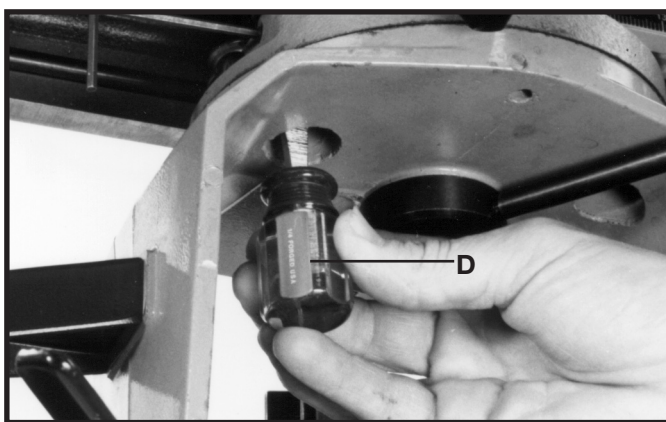

Fig. 40
5. Using a small screwdriver (D) Fig. 40, turn screw slightly until all play is removed.